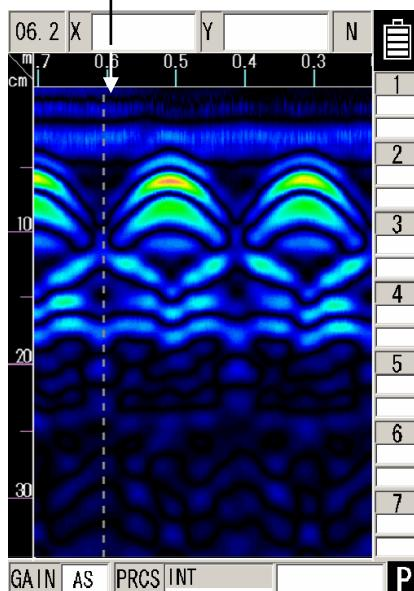

Figure 3-9 Display after real-time manual deduction processing
- (1) Place the **[14] ▽** key on the side of this product over the start line and the forward/backward **[14] ▽** key over the scanning line.
- (2) Press the **[9] START** key for more than one second. After about one second, a short single beep sound is generated, the fixed cursor is displayed at a position of about 10cm of the movement distance scale on the B-mode screen, and then scan preparation is complete.
- (3) Press the **[9] START** key and hold it pressed down, then move this product on top of the scanning line at a speed of less than 40 cm/s by rotating the wheels. If speed exceeds 40 cm/s, a beep sounds and the data for that timeframe is invalid. Please perform the scanning again.
- (4) When results for objects that are not being probed overlap with the fixed cursor position, push the **[5] ENTER**. (See Figure 3-9.) The reflected wave that the fixed cursor is pointing to can be processed into a surface wave by real time manual deduction. The resulting data of this processing is indicated in **A** mode or **BA** mode. A **↓** is shown at the position that the real time manual deduction processing was performed on the movement distance guide. In the **PROC** area at the bottom right of the screen, **MAN** is displayed.
- (5) Press the **[11] ▼** key to finish the scan test. A double beeping sound is generated and the scanning is stopped. In addition, after 8 seconds from releasing the **[9] START** key, a double beeping sound is also generated and the scanning is stopped. If the scan distance reaches to 15 m, a double beeping sounds is generated and the scanning automatically finishes.